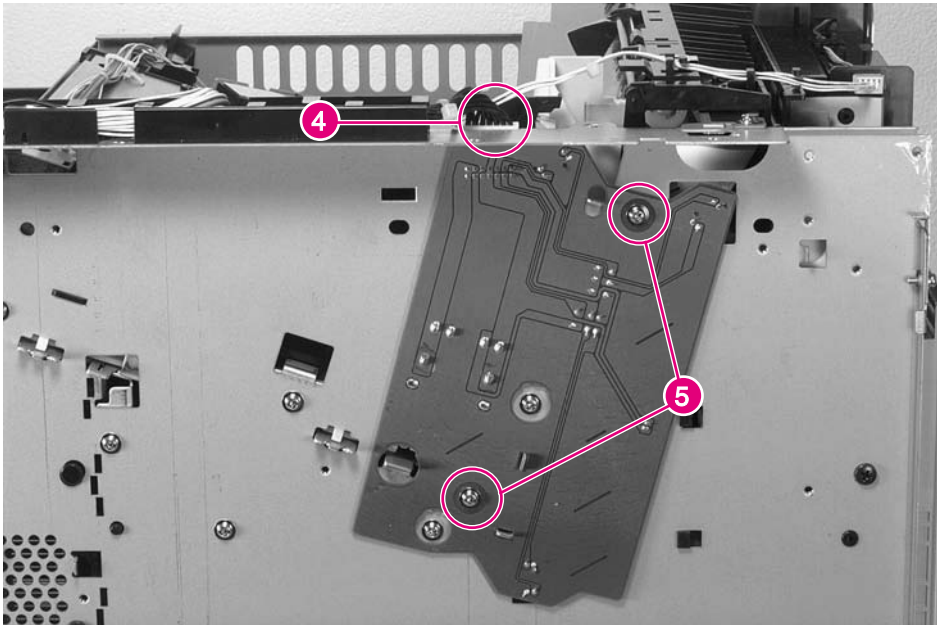

Figure 6-47 **Output Paper Sensor PCA (4 of 4)**
- 5 Unplug the connector (figure 6-47, callout 4).
- 6 Remove 2 screws (figure 6-47, callout 5), and unplug the connector on the back side of the PCA.